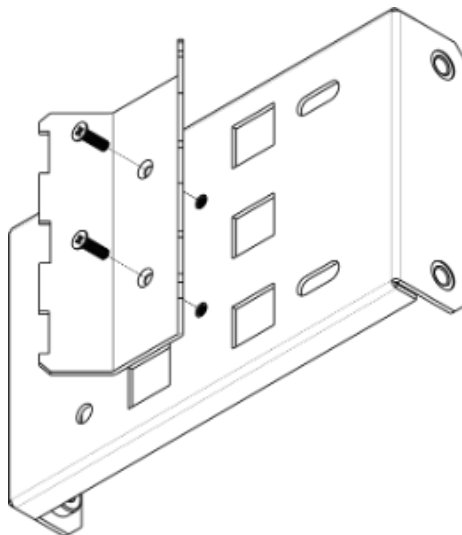

Figure 8 – Bracket for attaching to mast/pole
a) Connect bracket, that will be attached to a mast/pole, to bracket, that will be attached to the device, as shown in Figure 8.